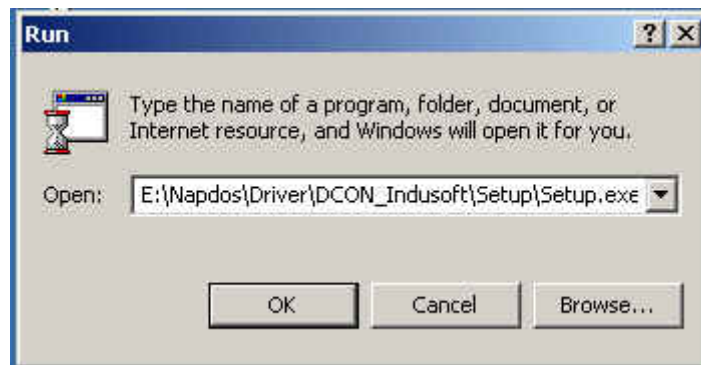

Fig 1-1. Enter the setup.exe path
Step 3: Enter “<CD-ROM Driver>:\Napdos\Driver\DCON_Indusoft\Setup\Setup.exe” (the path dependence on where the Setup.exe located) as Fig 1-1 shown.